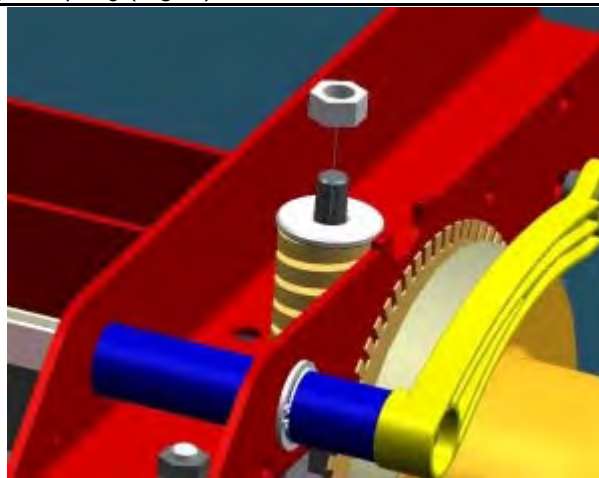

Fig. 3
3. Remove the nut locking the spring (**Fig. 3**)
6. Put the spring (**Fig. 3**) and the nut. Screw the nut until it starts compressing the spring, after that turn the nut **5 complete turns**.